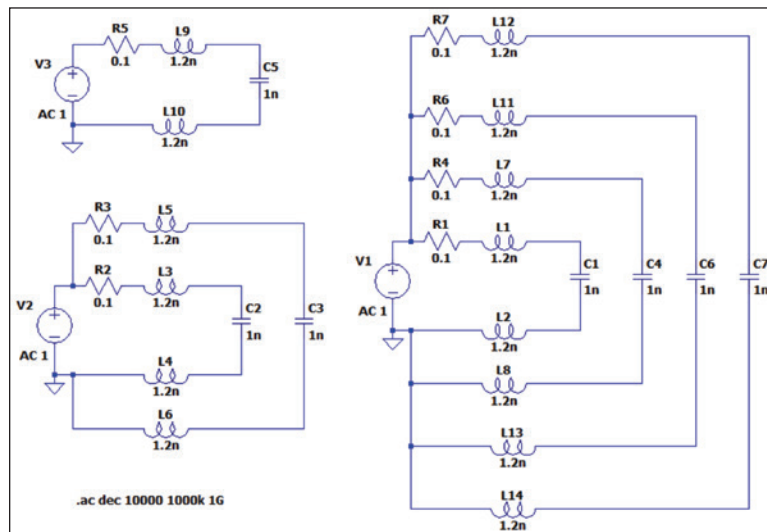
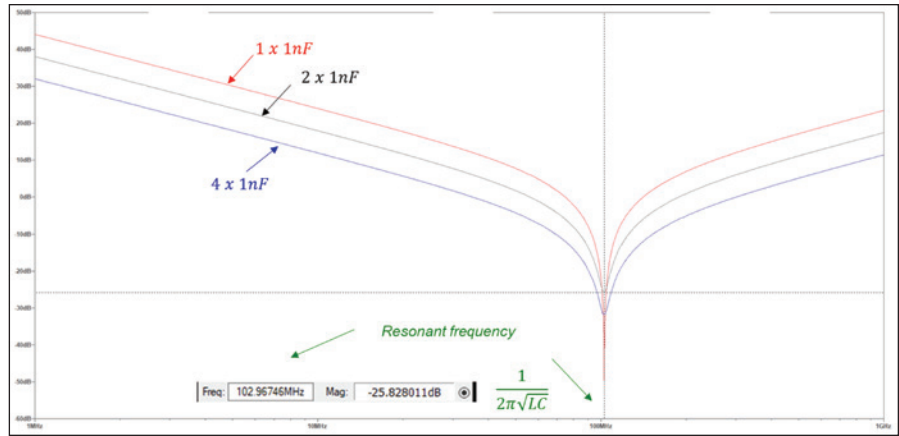
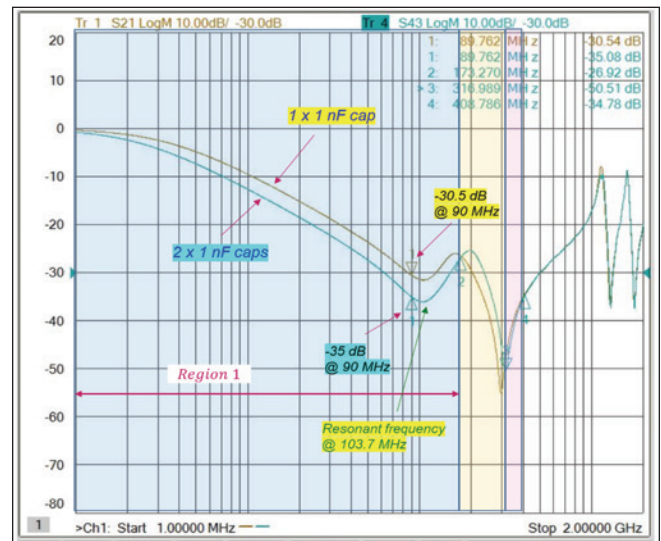
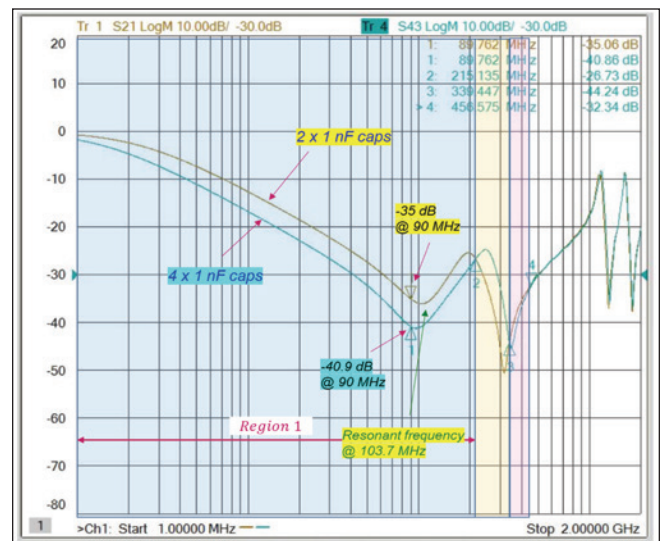

Figure 2: Single 1 nF capacitor vs. multiple 1 nF capacitors
Figure 3: Impedance simulation results - capacitors of the same value
Figure 4: Impedance measurement - single 1 nF vs. two 1 nF capacitors
Figure 5: Impedance measurement - two 1 nF vs. four 1 nF capacitors
Consider a network consisting of a 1 nF capacitor with a circuit parasitic inductance of 2.4 nH , and a parasitic resistance of $0.1\ \Omega$. Let's look at the impedance curves of three different networks: single 1 nF capacitor, two 1 nF capacitors, and four 1 nF capacitors, shown in Figure 2.
The impedance curves for these networks are shown in Figure 3.
and is consistent with the value shown in Figure 3. L and C in Eq. (1) are the total inductances and capacitances, respectively. These values do not change for different configurations of Figure 2 since, at resonance, the capacitor networks are connected in parallel. The total parallel capacitance, C_{par} , and the total parallel inductance, L_{par} , (assuming that the mutual inductances are negligible [2]) are given by
Figure 4 shows the impedance curves for the case of a single 1 nF capacitor vs. two 1 nF capacitors, while Figure 5. Compares two 1 nF capacitors vs. four 1 nF capacitors.
Note that, in Region 1, the measurement results, shown in Figures 4 and 5, are consistent with the simulation results of Figure 3.